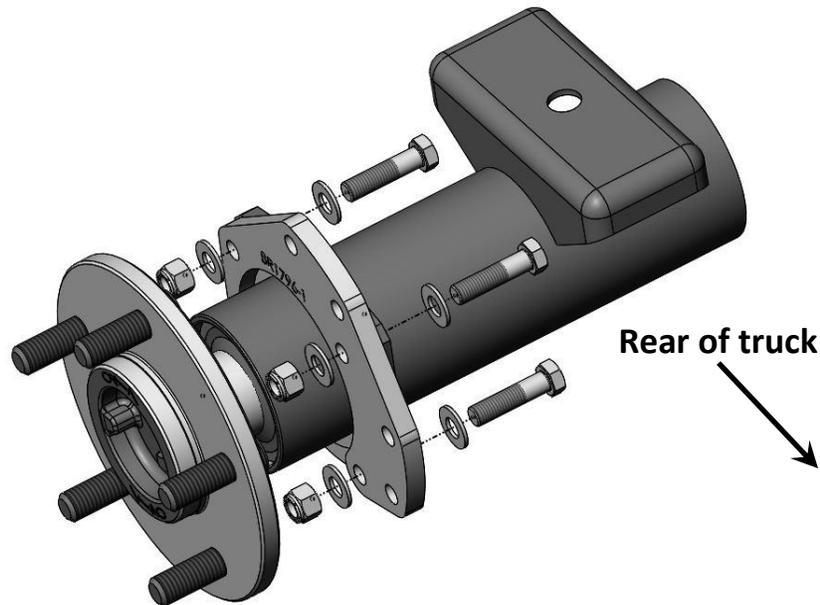

Figure 2 – Axle Re-installed w/Primary Caliper Mounting Bracket Installation
6. Install the Primary Caliper Mounting Bracket using the supplied 3/8"-24 x 1.500" Grade 8 Hex Head Bolts, 3/8" SAE Flat Washers, and 3/8"-24 Nyloc Nuts. Once everything is in place, tighten to 40 lb/ft. **NOTE:** Install the caliper bracket so that it will position the caliper to the rearward side of the axle housing. Refer to Figure 2 below for installation reference.